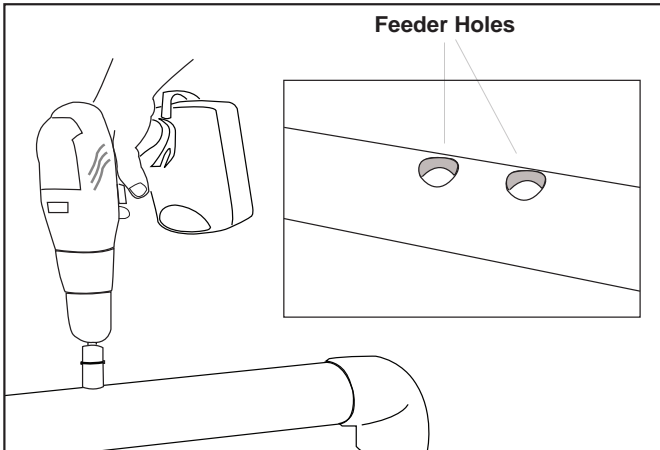

Figure 7. Drilling Feeder Holes
8. Drill the feeder holes using the holesaw provided. Ensure holes are clean and smooth (see Figure 7).